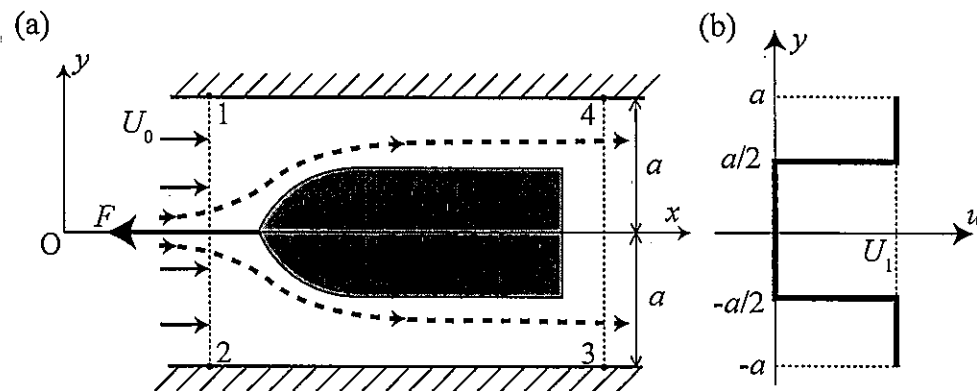

Figure 2-1
- I. Space between two parallel plates is filled with quiescent fluid, and along its center line an object is towed at a constant speed of U_0 by an external force F . The x and y axes are defined as shown in Figure 2-1(a). The flow field is two-dimensional and symmetric against the center line $y = 0$. The flow is incompressible and steady. The fluid density is ρ . The distance between the two plates is $2a$. Consider a control volume 1-2-3-4-1 which moves with the object and whose height in the y direction is $2a$, as shown by the dotted line in Figure 2-1(a). The boundary 1-2 is located sufficiently upstream the object, so that the pressure and the velocity in the x direction along the boundary 1-2 are given by $p = P_0$ (constant) and $u = U_0$ (constant), respectively. As shown in Figure 2-1(b), the velocity in the x direction along the boundary 3-4 is $u = 0$ for $0 \leq |y| < \frac{a}{2}$, whereas $u = U_1$ for $\frac{a}{2} \leq |y| \leq a$. The boundary layers along the two plates can be neglected. Consider unit length in the direction perpendicular to the plane of the sheet. Answer the following questions.
- (1) Express U_1 by using U_0 .
- (2) Express the pressure P_1 for $\frac{a}{2} \leq |y| \leq a$ along the boundary 3-4 by using P_0 , ρ and U_0 . Here, the loss along the streamline as shown by the dashed line in Figure 2-1(a) can be neglected.
- (3) Consider the momentum balance in the control volume 1-2-3-4-1 in the x direction. By using a , ρ and U_0 , express the external force F and the work per unit time, W_1 , required for towing the object. Here, the pressure along the boundary 3-4 can be assumed to be uniform.